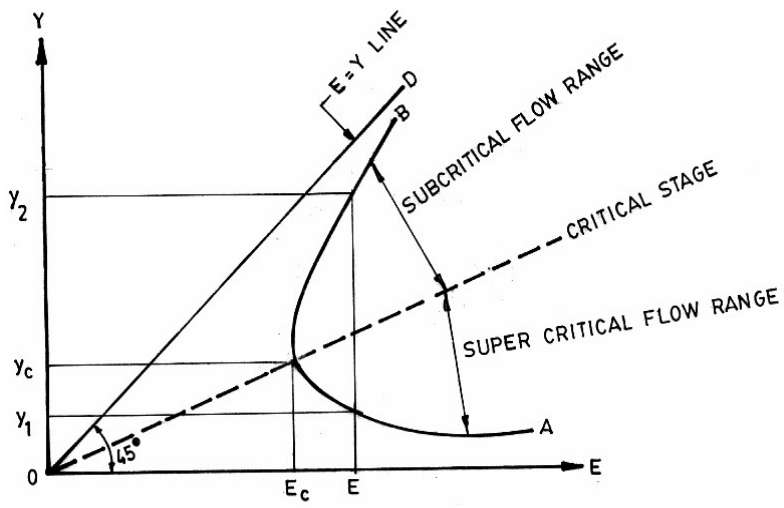

Fig. 1 Specific-energy curve
For a given channel section and discharge, the specific energy is a function of the depth of flow. When the depth of flow is plotted against the specific energy, a specific energy curve is obtained. This curve has two limbs CA and CB (Fig.1). From Eq. (4), when  $y$  tends to 0 (zero),  $E$  tends to infinity, So the limb CA approaches the horizontal axis asymptotically towards the right. Also, when  $y$  tends to infinity,  $A$  tends to infinity, so that  $V^2/2g$  tends to 0 (zero) and  $E$  tends to  $y$ , which implies that the limb CB approaches the  $E = y$  line (line OD) asymptotically. As the slope of the  $E = y$  line is 1, so it has an inclination of 45 degree with the horizontal axis and passes through the origin.
The specific energy curve (Fig.1) shows that, there are two possible depths for a given value of E, the low stage  $y_1$  and the high stage  $y_2$ , which are the called alternate depths.